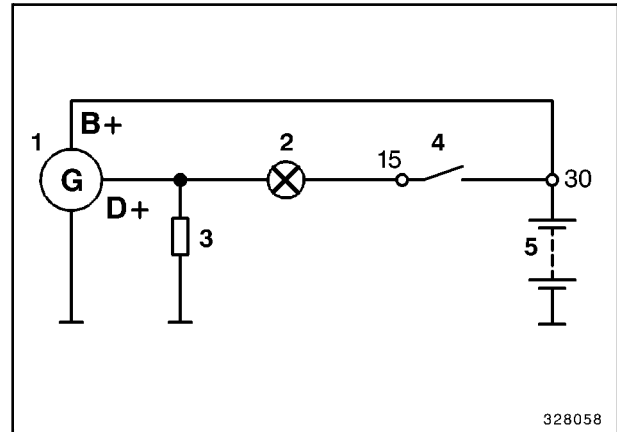

Fig. 6
The functions of the charging control are based on the system shown in Fig. 6. If the ignition switch (4) is closed, current flows from the battery (5) through the lamp (2) via a resistor to ground. The resistor (3) has such a resistance value that the lamp lights up. If the diesel engine is then started and the alternator thus driven, a positive voltage will result at terminal (D +) of the alternator. When there is a positive voltage on both sides of the lamp, the charging control lamp will be extinguished. The resistor must be mounted immediately adjacent to the lamp.